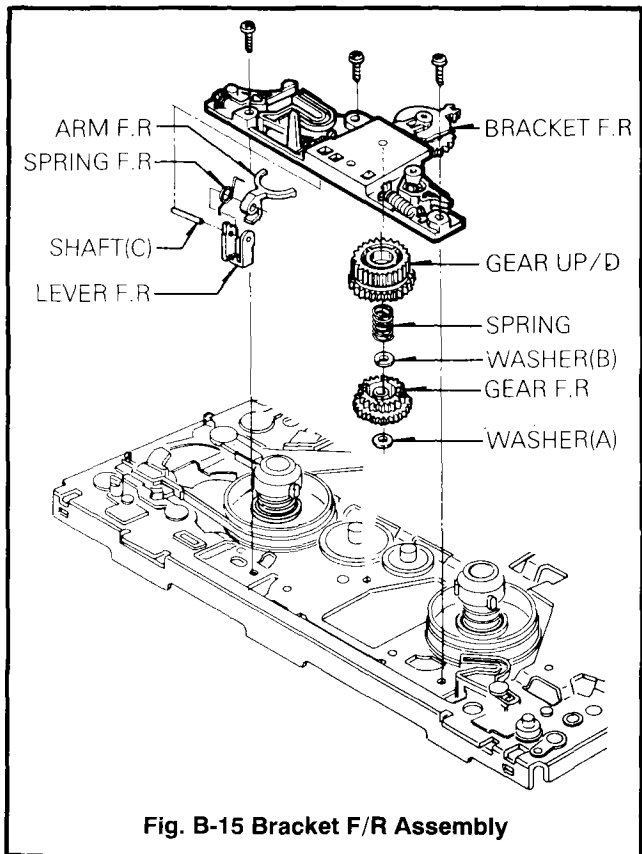

Fig. B-15 Bracket F/R Assembly
- ② Remove the TSB.
- ① Remove the TMB Spring.
- ② Remove the TMB.
15. Bracket F/R(FF/Rewind) Assembly (Fig. B-15)